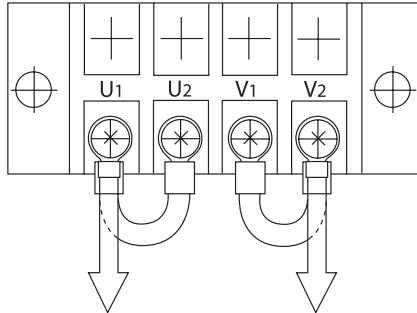

Figure 27: Output Terminal Board, 120 Volt Output
- b. Connect U1 to U2 and V1 to V2 on the output terminal board (Figure 27). Connect 120 volt output leads to terminals U1 and V2.